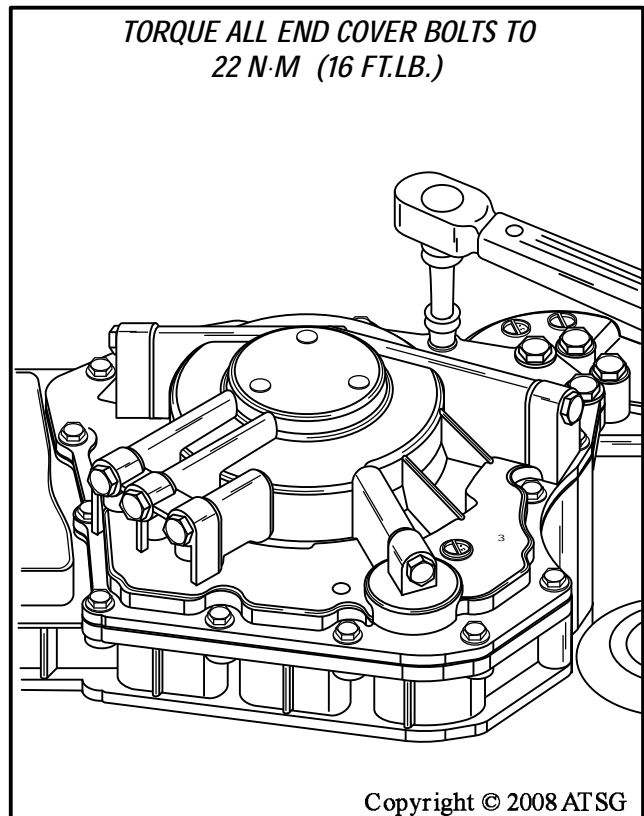

Figure 212
53. Torque both the 12mm head bolts and 17mm head bolts to 22 N·m (16 ft.lb.), as shown in Figure 212.